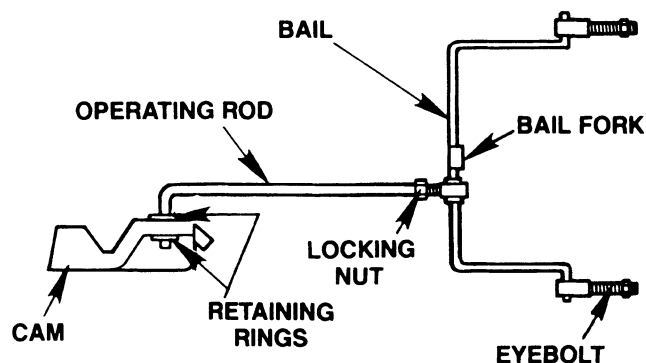

Figure 7
9. If necessary, adjust length of operating rod. To adjust length of operating rod, remove retaining ring on end of operating rod and slip rod from hole in cam. Loosen locking nut at eyebolt. Turn rod to adjust for length and reinsert into cam. Tighten locking nut and reinstall retaining ring. (See Fig. 7 on page 4)